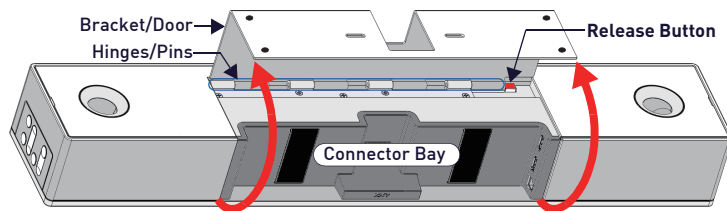

FIG. 2 ACV-2100 BOTTOM VIEW - OPENING THE WALL MOUNT BRACKET
- Press and hold the **Release Button** to slide the Wall Mount Bracket out (over the button) to disengage the pins on the bracket from the hinges on the unit (FIG. 2).
- Connect cables as necessary - open the Wall Mount Bracket to access the connector bay (see FIG. 2).